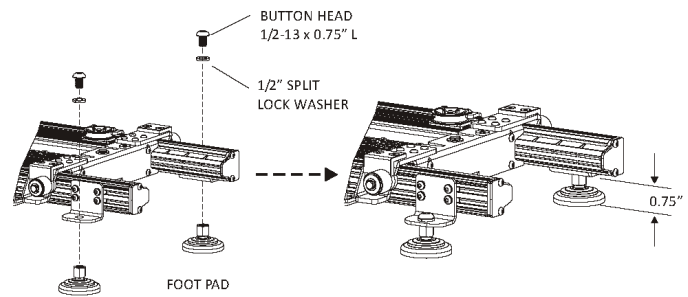

Figure 4-22
2. **B. Short threshold:** Add foot pads using provided hardware. *See Figure 4-22.*